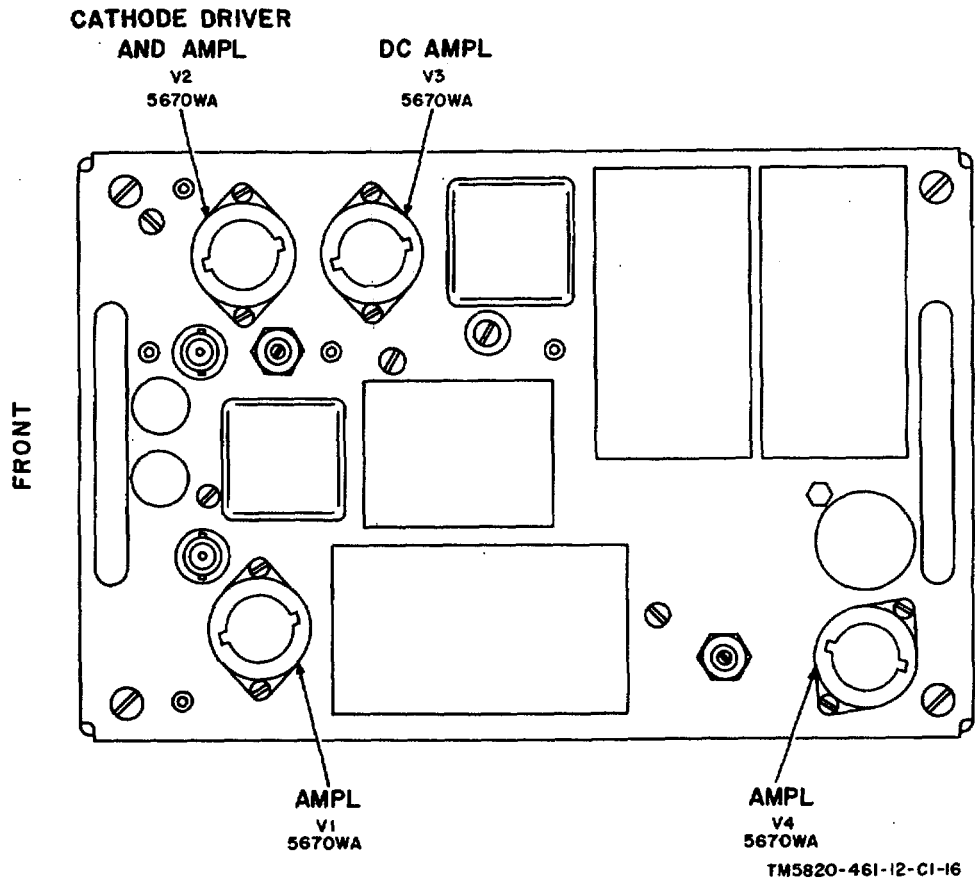

Figure 5-4. Baseband assembly 2A3 (part of T-893(P)/GRC), tube locations.
a. T-898(P)/GRC. Loosen the screws that attach the T-893 ( P ) /GRC to the component case, and slide the component out of the case The plug-in assembly locations in the T-893 (P)/GRC are shown in figure 5-4. The locations of tubes in the plug-in assemblies of the T-893(P)/GRC are shown in figures 5-4 through 5-6 When the defective tube is replaced, slide the component back into the case and tighten the screws.